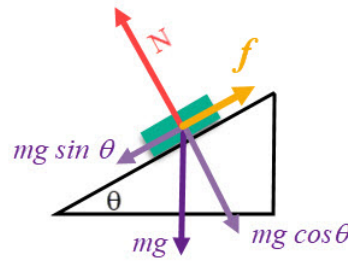

Figure 2.1: Free-body diagram of a block on an inclined surface. If the green block is stationary $f = f_s$, and if moving, $f = f_k$
As a classic example take the situation in Fig. 2.1. A green block is sitting on an inclined surface with the angle of inclination given by θ . If the green block is still not moving, then the friction force $f = f_s$. If the figure depicts a block that is moving then $f = f_k$.
- In the sixth column enter the maximum value of the static friction force $f_s^{\max}$. To find this, we see from Fig. 2.1 that as soon as the green block starts to move, the static friction force f_s should have increased to its maximum value that is equal to the gravitation force $mg \sin(\theta)$. This means that